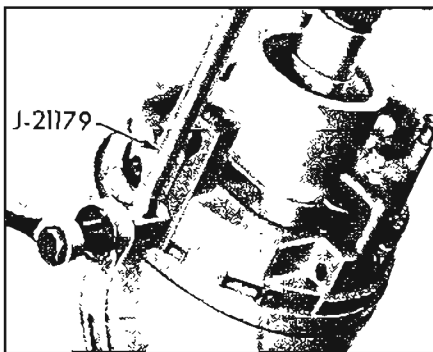

Figure 8-81—Removing Pivot Pin
12. Remove the two pivot pins with Remover J-21179. See Figure 8-81. Thread stud of J-21179 into pin. Position remover as shown so that shift lever bowl will not be damaged. Hold stud and turn nut to remove pin.